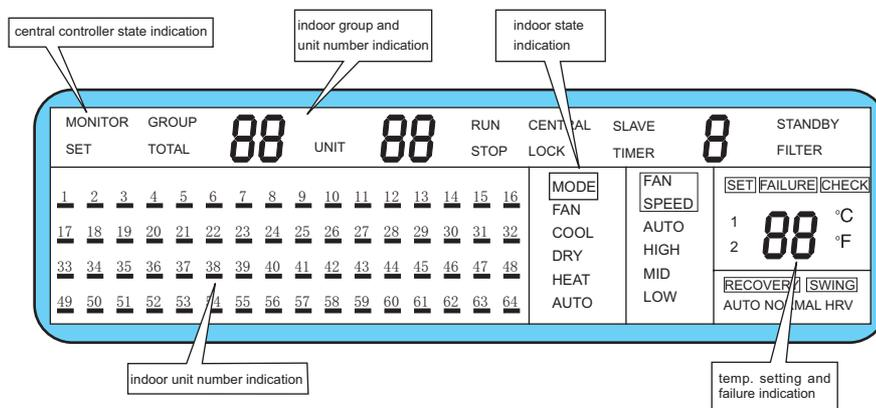

Figure 4: LCD diagram of central controller
- After the central controller is electrified, all icons on LCD will display for 3 seconds, as shown in Figure 4. Then if the controller is the master central controller, LCD will display "CENTRAL", and "88" on "GROUP" "UNIT" position will flash at 1Hz frequency, the sequence is 888→ 888→88→8, which shows the central controller is searching indoor, when indoor unit is found, LCD will display the indoor state and display "MONITOR" icon; if no indoor unit is found, the "88" will flash all the time at 1Hz; when more than 2 indoor units are found, it will display the min. unit No., and the unit No. indication will display all found indoor unit No. Indoor state indication and set temp. indication will display the running state and set temp. of the indoor with min. No.